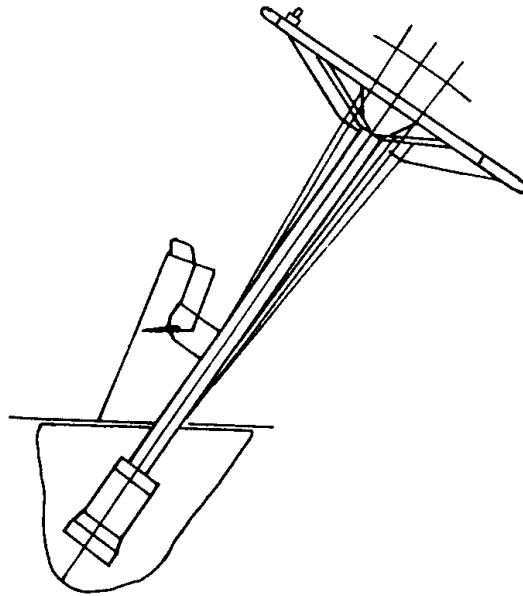

Figure 7-1 Steering gear
3.1 The steering device (see Figure 7-1) mainly includes a cycloidal fully hydraulic steering device, steering column and steering wheel. The steering column and the steering wheel can be adjusted back and forth, which can be adjusted
See Figure 7-1.